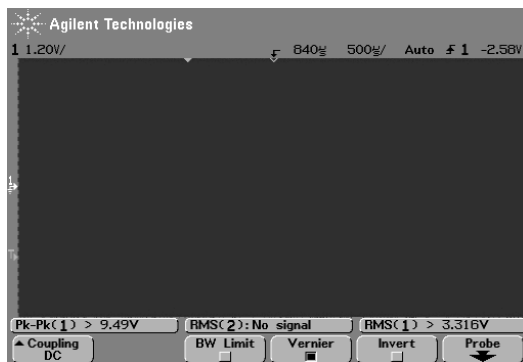

Figure 4-2: CW signal set to fill display
- Adjust the oscilloscope's timescale to 500 μ s per division (for 400 Hz modulation). Adjust the amplitude level of the oscilloscope to just cover all eight divisions of the display with the RF signal (see Figure 4-2).